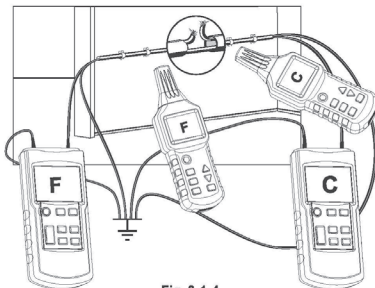

Fig. 3-1-4
- * All lines that are not being used must be connected to auxiliary ground as shown in Fig. 3-1-4.
If the emitters are connected according to Fig. 3-1-4, the receiver will indicate C on the left side of the line break. If the receiver goes beyond the position of the break to the right, it will show F. If you are directly above the break, no line of code is displayed, due to the overlap of both emitter signals.